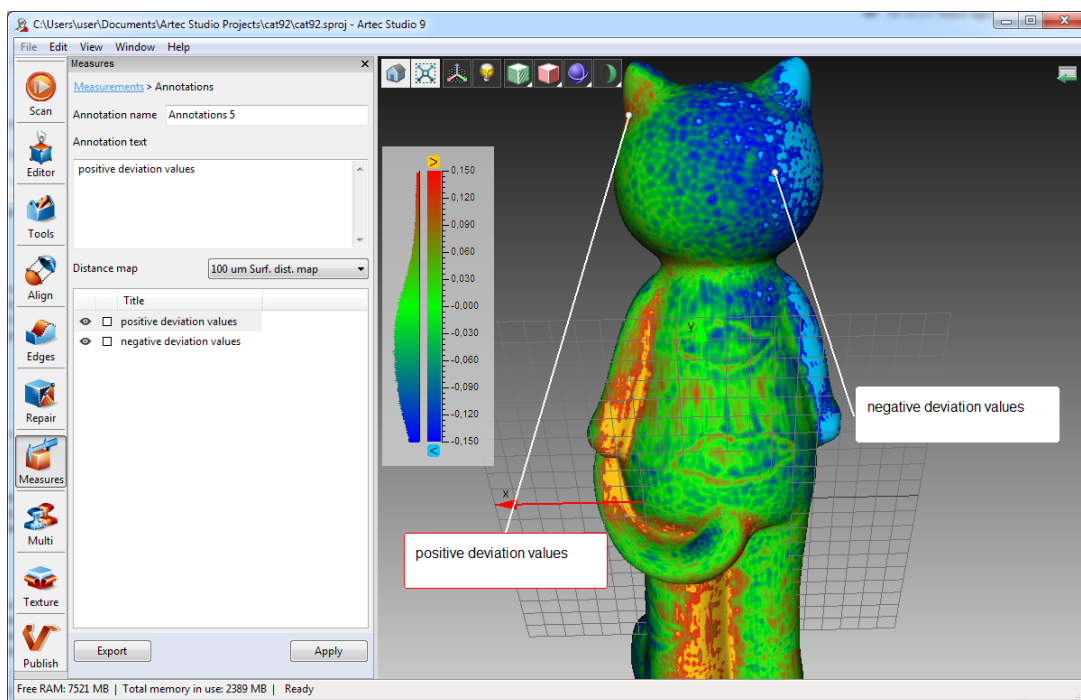

Figure 6.12: Annotation of the model layered with a surface distance map
Noteworthy elements of the surfaces or surface distance map can be marked using *Annotations* tools. The annotation may include one or several labels. Labels look like rectangular tags with connecting lines pointing to the elements on the surfaces (figure 6.12).
5. Repeat steps #3 and #4 to create a new label. Every new label in addition to tagging on the surface will be added to the annotation list on the left panel (figure 6.12). Labels in the list can be hidden/shown or recolored by clicking **RMB** and selecting a corresponding option in the menu. The same results can be reached by toggling Selection flag  for displaying and by pressing the square button for recoloring.
1. Select the label in *3D View* window and its border color becomes red (see selected label in the figure 6.12). Press **Del** key on the keyboard.